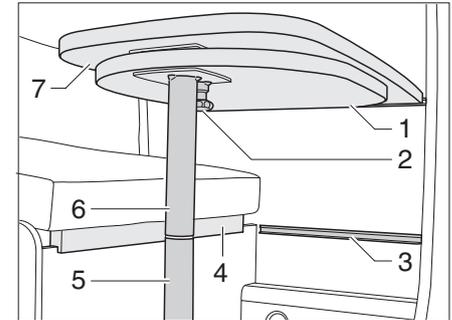

Fig. 42 Suspension table with dismantlable support leg
- ▶ Pull the knob (Fig. 42,2) of the locking mechanism downward and swivel out the table-top extension (Fig. 42,1).
- ▶ Swivel the table-top extension (Fig. 42,1) under the table-top (Fig. 42,7) until the locking mechanism latches audibly.
- ▶ If necessary, place the multiplex strip (Fig. 42,4) on the bench seat.
- ▶ Swivel out the table-top extension (Fig. 42,1).
- ▶ Lift the front of the table-top (Fig. 42,7) by approx. 45°.
- ▶ Pull out the lower part of the support leg (Fig. 42,5) down and lay aside.
- ▶ Hook the table-top with the retainers at an angle of 45° into the lower attachment rail (Fig. 42,3) and set it down onto the floor with the upper part of the support leg (Fig. 42,6).